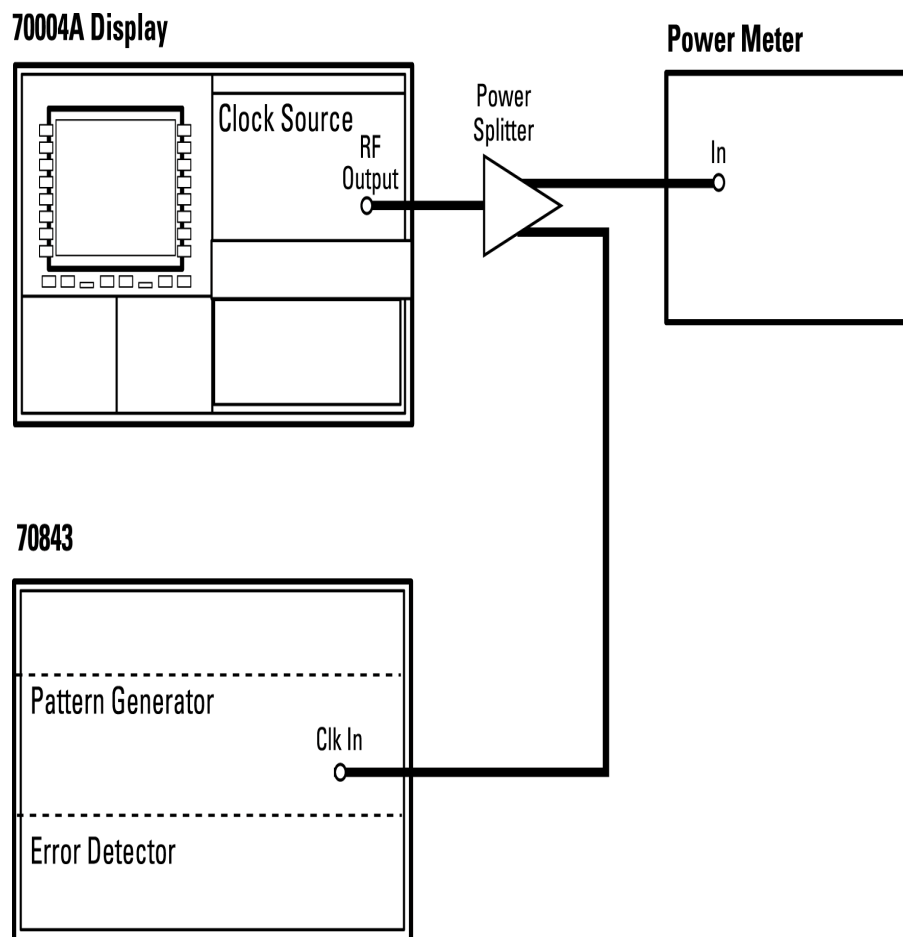

Figure 11-4
Connect the equipment as shown in Figure 11-4 and switch on the system. Press **INST PRESET** on the Agilent 70004A display to initialize the Agilent 70843 pattern generator and proceed as follows:
1. Connect the clock source RF output via a power splitter to the pattern generator and power meter as shown in Figure 11-4. Set the RF output level to 10 GHz at 0 dBm.